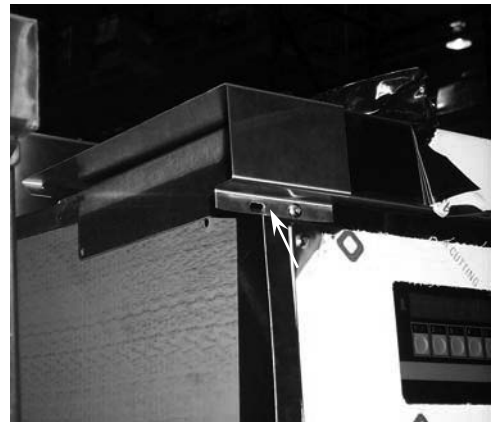

Figure 9. Complete installation of topcap battering strips (arrow) after installing front connecting post(s) on connected fryers.
10. Complete installation of topcap battering strips after the front connecting post has been installed (Figure 9).